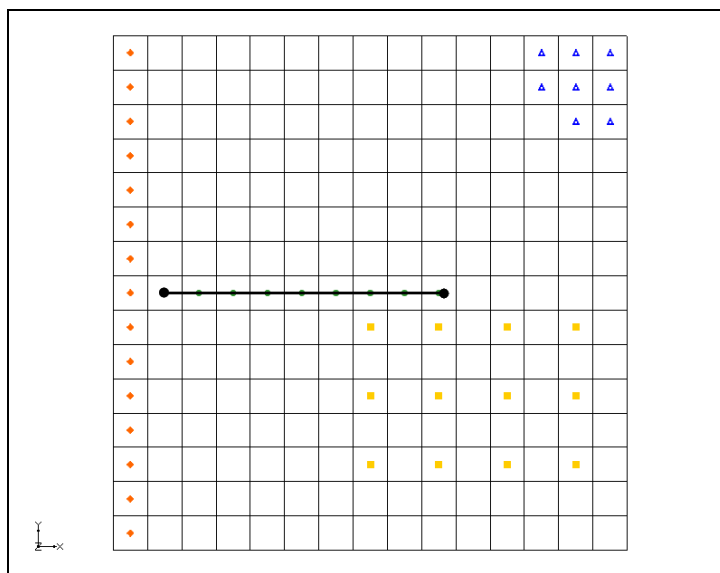

Figure 3. Creating an arc for the drains.
2. Create an arc for the drains as shown in Figure 3. Make sure the left end of the arc does not enter the specified head cell on the left side of the model.